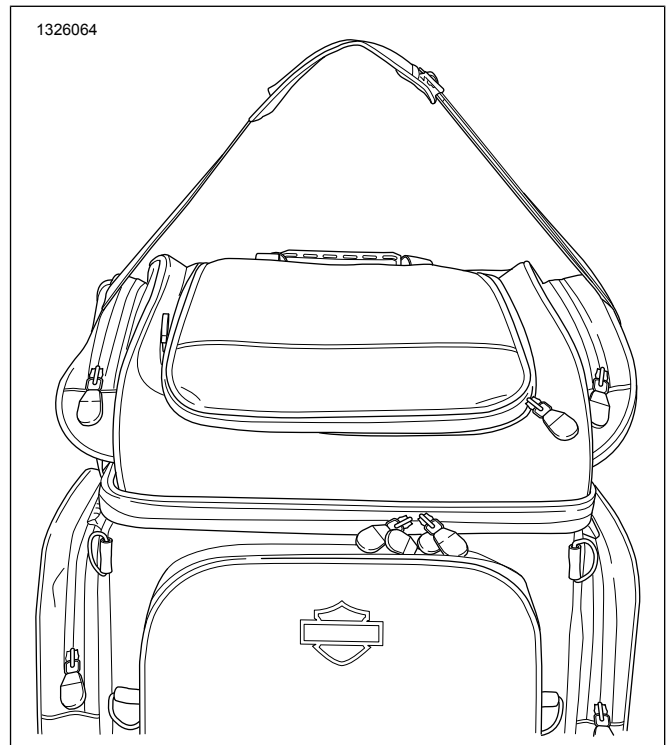

Figure 3. Shoulder Strap
1. Figure 3 Hook ends of strap to D-rings on each side of bag.